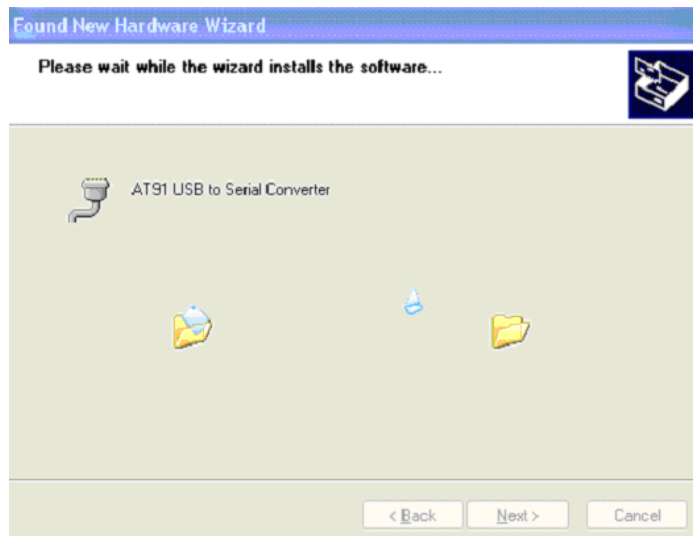

Figure 4: Wizard Installs Software
- User should select “Continue Anyway” as shown in figure 4.